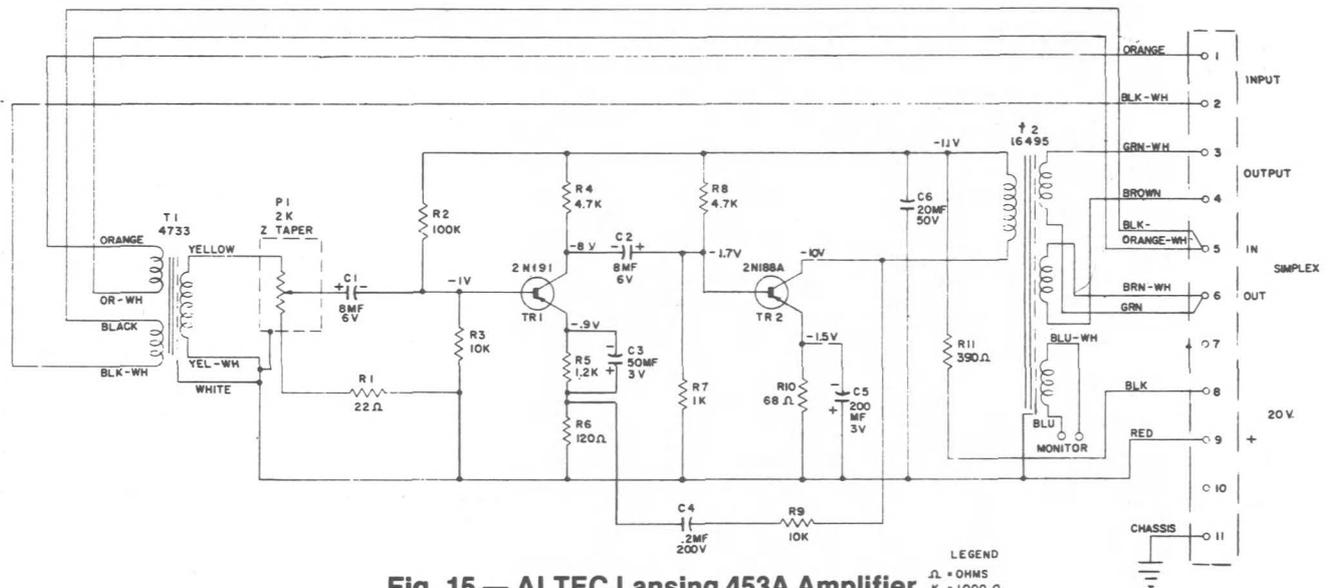

Fig. 15 — ALTEC Lansing 453A Amplifier
2.06 The 453A (Fig. 15) and 455A amplifiers have a DC simplex circuit which may be used to bypass the amplifier. A maximum current of 100 ma may be permitted provided out of balance current does not exceed 5 ma.